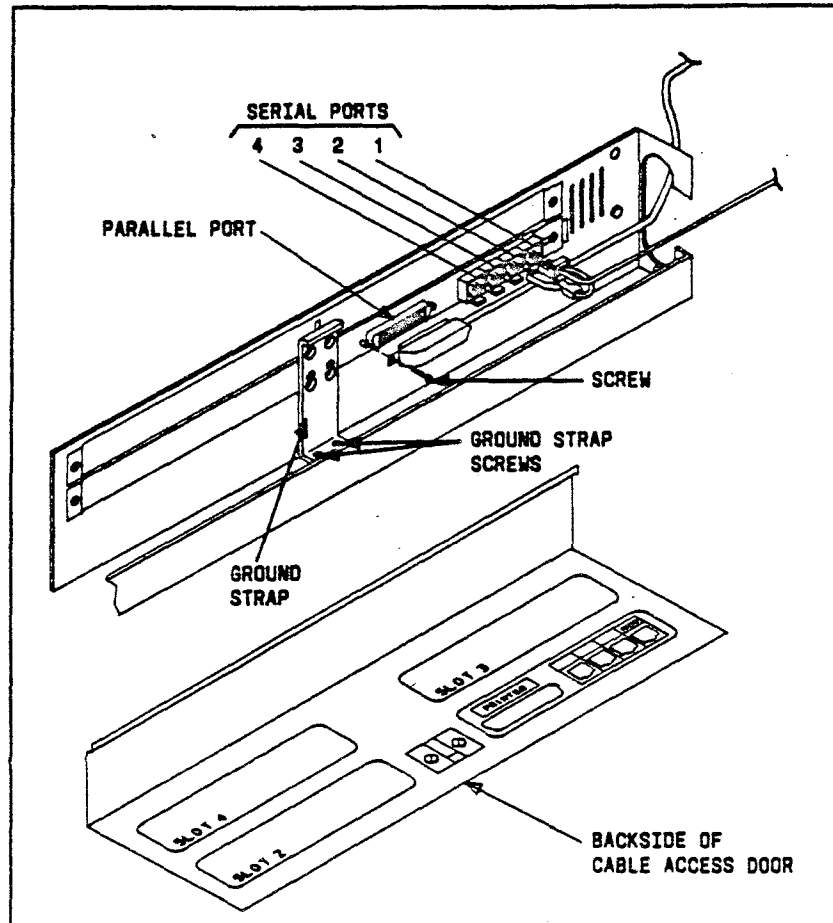

Figure 4-10. Connecting Feature Card Cables and Ground Strap
- B. **Parallel Port Plugs**—After connecting the adapter plug to the parallel port jack, tighten the screw to secure the plug to the jack. (See Figure 4-10.)
2. Connect the ground strap to the chassis. (See Figure 4-10.)